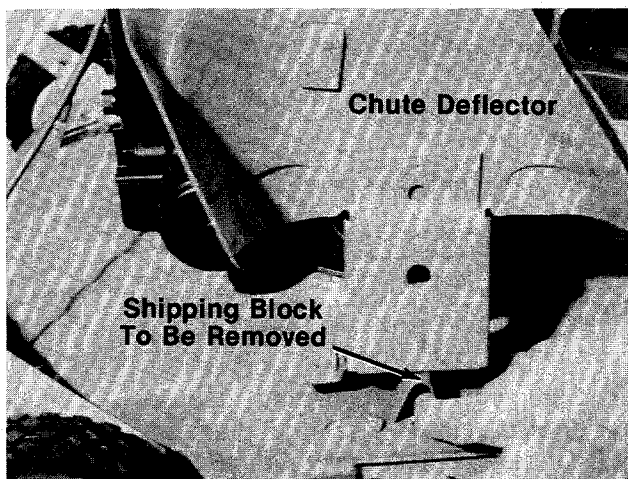

FIGURE 12.
- Please note that the chute deflector on your mower is in an upright position. It is held in that position by a shipping block. This block is used for shipping purposes only. It must be removed and discarded before your mower is put into operation. See figure 12.